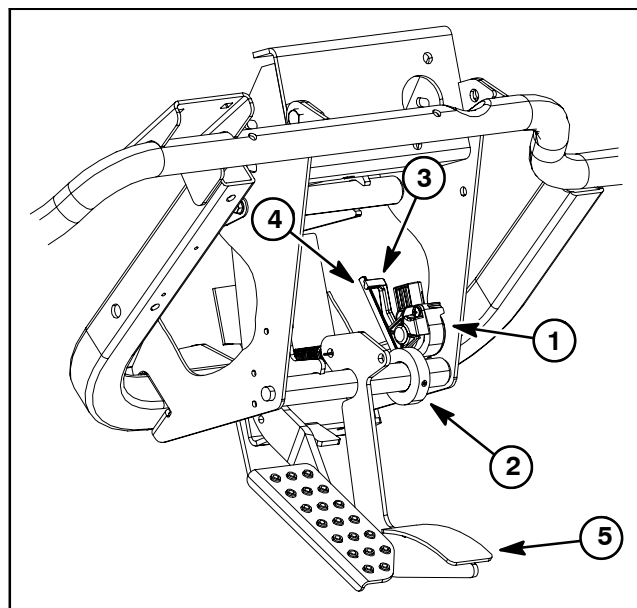

Figure 15.2
The accelerator potentiometer is used as one of the inputs for the vehicle controller and is attached to the pedal frame under the dash (Fig. 15.2). A collar with roll pin attached to the accelerator pedal shaft positions the accelerator potentiometer lever. Potentiometers with a long lever use a roll pin that extends approximately 3 inches (76 mm) out of the collar.
3. With the accelerator pedal released, inspect location of roll pin on throttle position collar and potentiometer lever. The roll pin should just contact the potentiometer lever without rotating the lever (Figure 15.2).
- A. Loosen two (2) set screws that secure throttle position collar to throttle pedal shaft and reposition collar so that roll pin on the throttle position collar just contacts the potentiometer lever without rotating the lever. Make sure that there is clearance between roll pin and side of potentiometer lever to prevent binding.